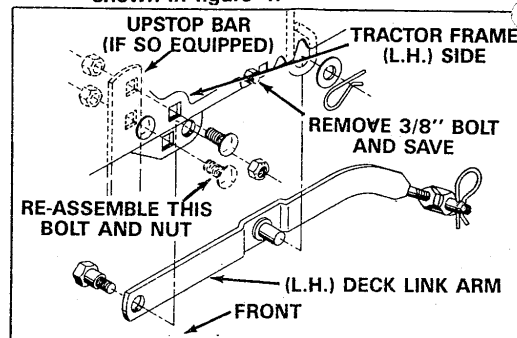
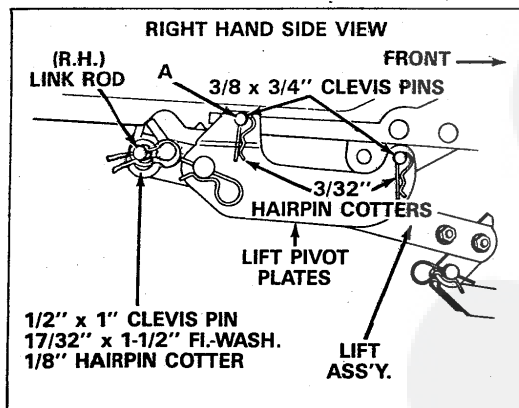

FIGURE 4
FIGURE 19
The mower deck link arms (R.H. and L.H.) and upstop bars (if tractor is so equipped) must be removed to prevent interference with blade lift. See figure 4. Re-assemble bolt and nut shown in figure 4.
2. Refer to figure 19 below and;
- C. Re-assemble one 3/8" x 16 x 3/4 carriage bolt and 3/8" hex nut in hole labeled A in figure 19 on each side of tractor frame. Also see figure 4 on page 4.